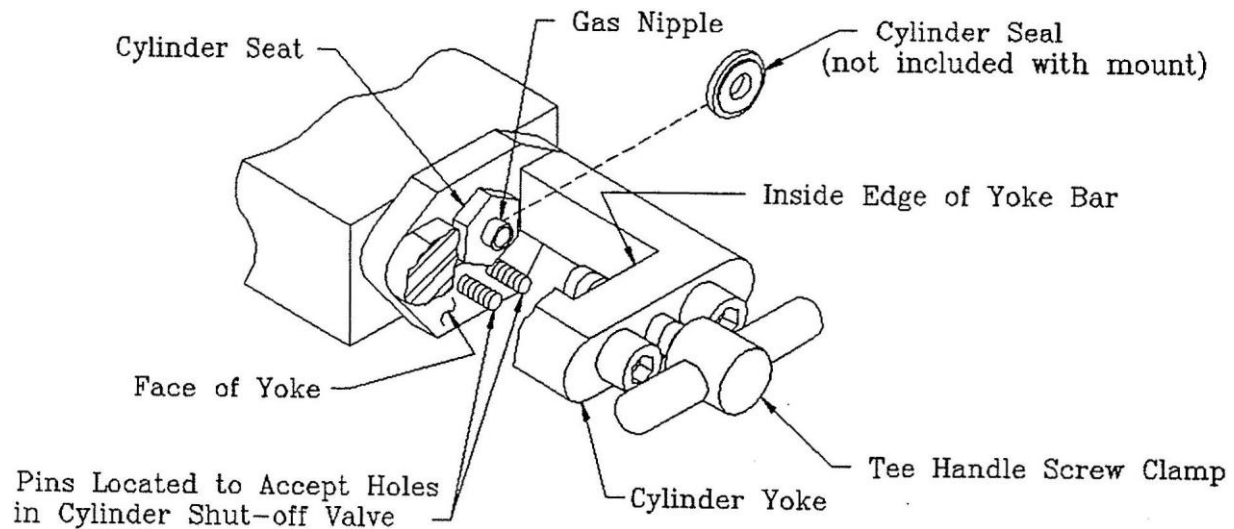

Figure 23
Pin index system is a method of pins accurately located on the face of the cylinder yoke and holes accurately located on the cylinder shut-off valve, assuring that cylinders of a specific gas will fit the cylinder yoke for that specific gas. See Figures 23 and 24.
3. Place the cylinder seal on the cylinder seat such that gas nipple goes through the hole in the center of the cylinder seal. See Figure 23.
4. Locate the “E” cylinder directly underneath the cylinder with the cylinder shut-off valve located towards the cylinder yoke and such that the face of the cylinder valve will face the face of the yoke. See Figures 23 and 24.